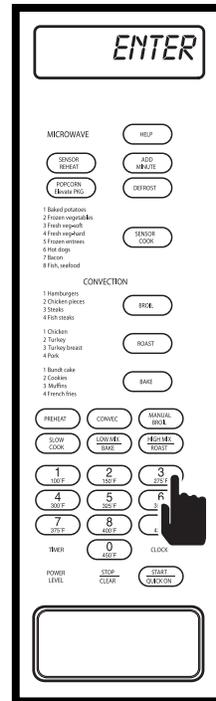

Figure 3-46. Press Number 3 Key
2. Press the number 3 key, "ENTER - START-TIME" will flash on display (See Figure 3-46).